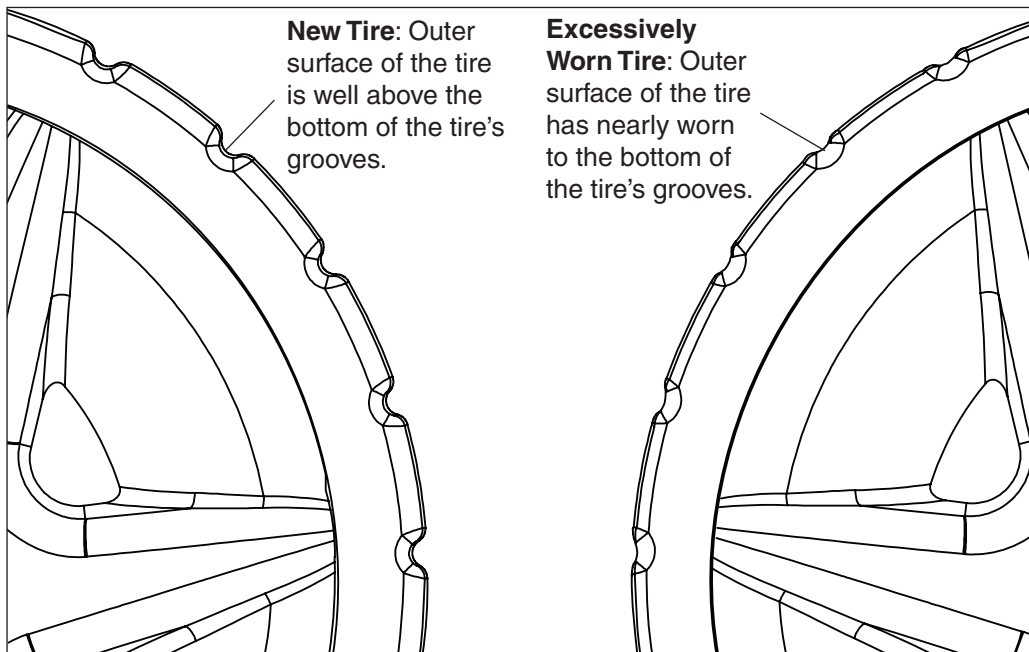

Figure 18: Tire Wear Comparison
- The tires are not excessively worn. See **Figure 18** on the next page.
After prolonged use it may become necessary to replace the Rebel™ Suction Side Pool Cleaner's rubber tires. When the tire surface has worn into the tire's grooves the tire is in need of replacement. See **Figure 18**.